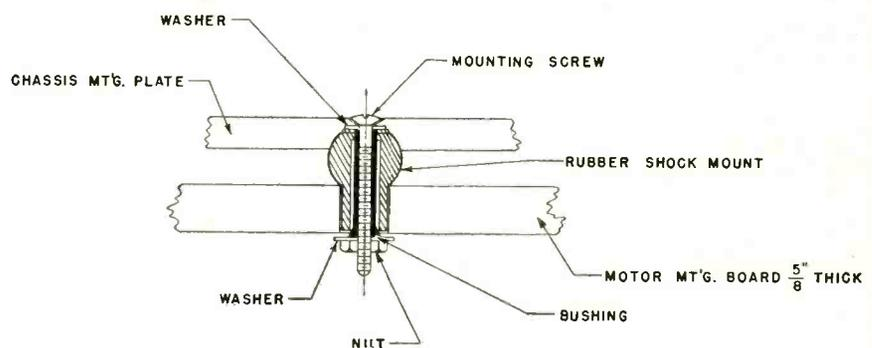
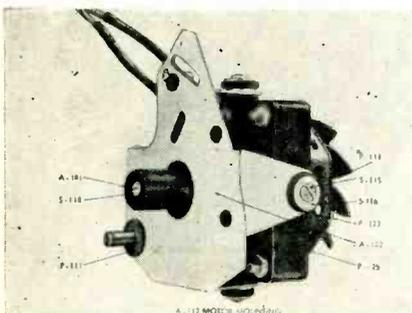

Fig. 1. Mounting details of Twin Trax chassis
Fig. 2. Rubber grommet motor mounts and drive roller of pentron machine.
4. **Shock-proof Mounts** - Freedom from vibration is essential to *any* recording machine. Protection against building rumble or local vibration is gained through mounting plate shock-mounts such as the *Twin Trax* example illustrated in *Fig. 1*. Rubber grommet motor mounts (*P 123*) and rubber drive roller (*A 181*) of the *Pentron* recorder are shown in *Fig. 2*. This rubber drive roller is carefully
- (63) Drive Motor